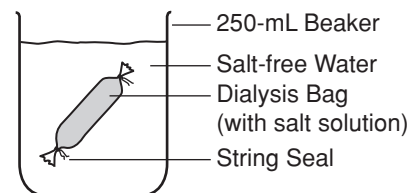

Figure 1.
6. Place approximately 200 mL of salt-free water into a clean 250-mL beaker. Place the dialysis bag into the beaker of water as shown in Figure 1.